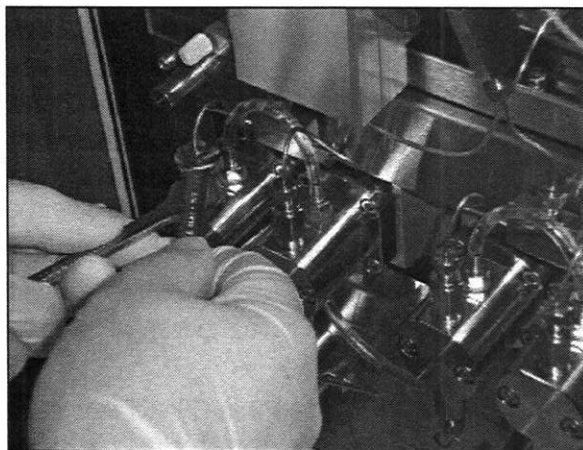

Figure 3-8: Removing the Outlet Line, Pump A
1. See Figure 3-8. Use an 8-mm (5/16") wrench and a 10-mm wrench to remove the outlet and inlet lines. Place the 10-mm wrench onto the check valve, and the 8-mm wrench onto the nut immediately above the check valve (outlet). While holding the check valve stationary with the 10-mm wrench, turn the 8-mm wrench counterclockwise. Once the nut is loosened sufficiently, use your fingers and completely disconnect the nut from the check valve. **Do not remove the check valve.**